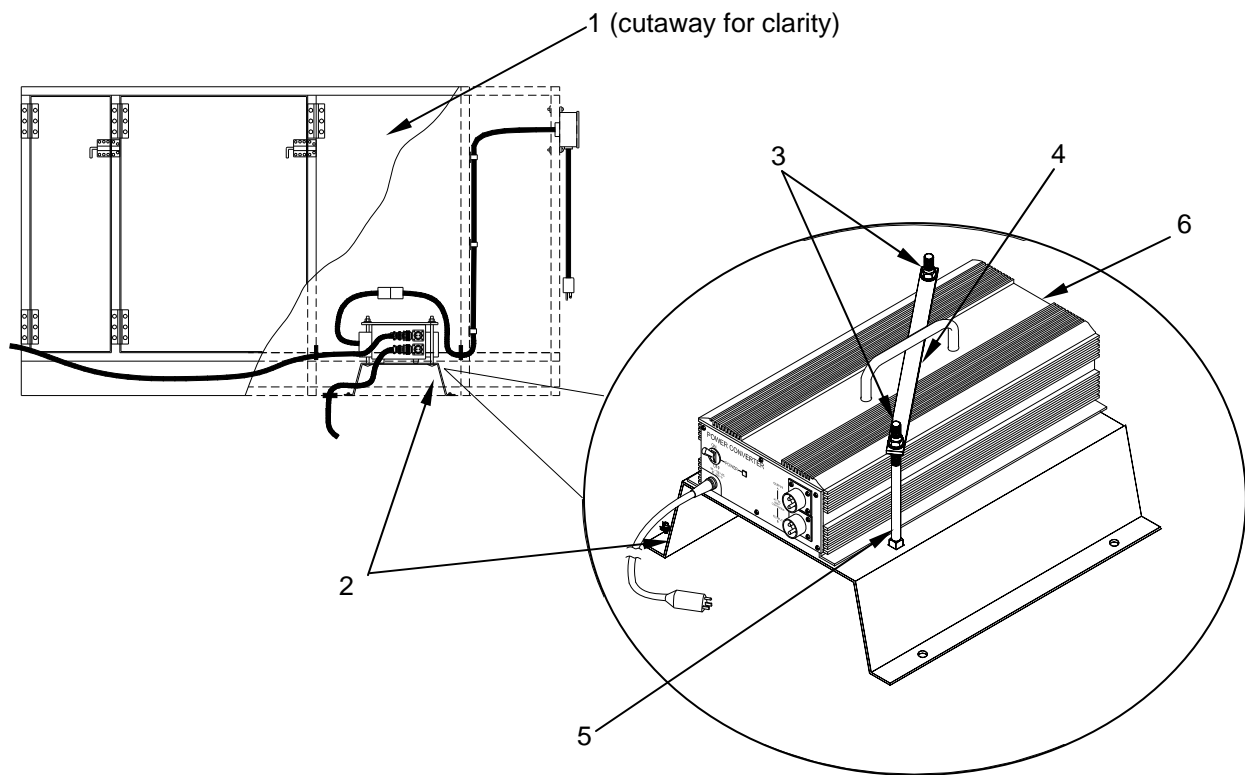

Figure 2. Power Converter Mounting Bracket with Power Converter Installed.
1. Open the MKT cooling cabinet door (Figure 2, Item 1) and remove the cooling trays. Locate the power converter mounting bracket (Figure 2, Item 2) on the floor of the cooling cabinet.
2. Remove the two self-locking nuts (Figure 2, Item 3) and slide the retaining bar (Figure 2, Item 4) off the shafts (Figure 2, Item 5).
3. Place the power converter (Figure 2, Item 6) on the mounting bracket (Figure 2, Item 2) with the front of the converter facing the front of the cabinet. Push the converter all the way to the back of the cabinet.
4. Place the retaining bar (Figure 2, Item 4) through the handle of the power converter (Figure 2, Item 6) and over the two mounting bracket shafts (Figure 2, Item 5). Be sure to keep the bar level, while sliding over the shafts, to prevent binding.
5. Install the two self locking nuts (Figure 2, Item 3).